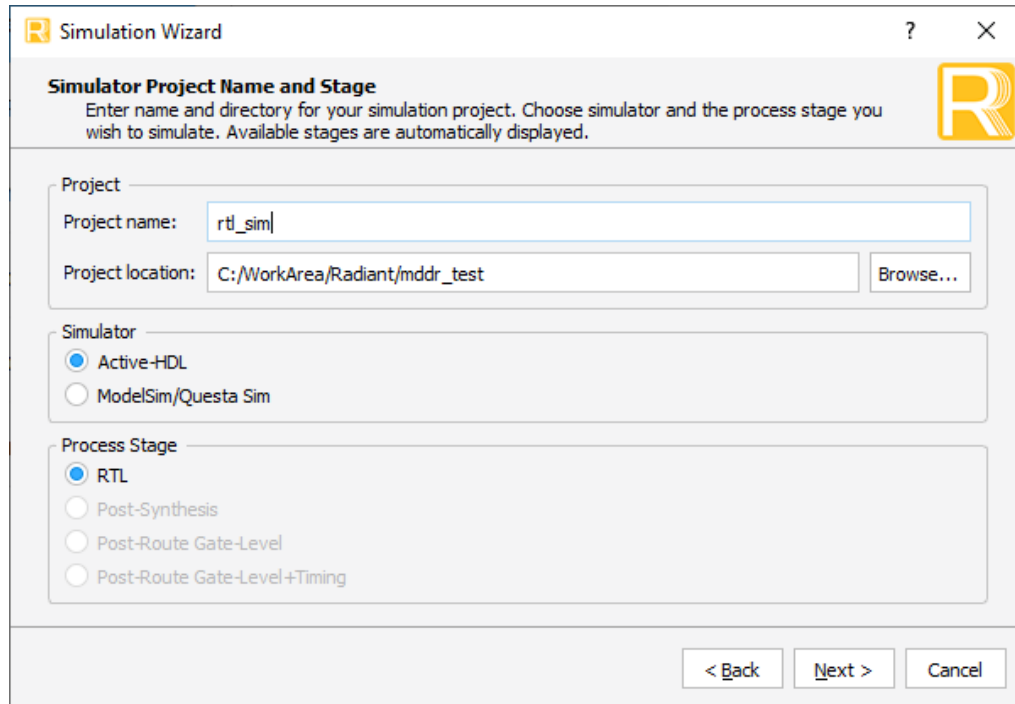
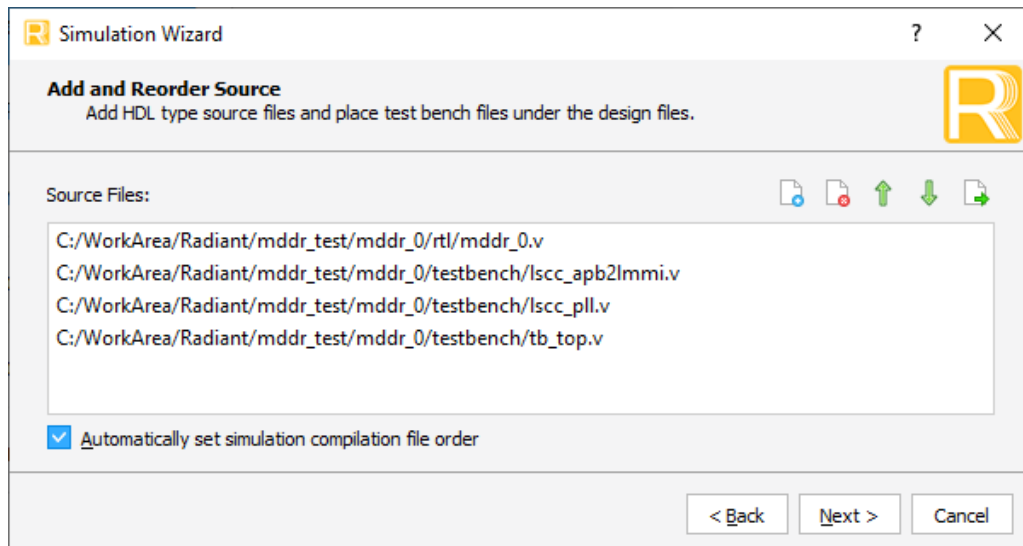

Figure 4.1. Simulation Wizard
Figure 4.2. Adding and Reordering Source
1. Press the  button located on the Toolbar on the top of your screen to initiate Simulation Wizard, as shown in Figure 4.1.
2. Press **Next** to get to the Add and Reorder Source Screen, shown in Figure 4.2.
Running the Simulation	Updated Figure 4.1 and Figure 4.2.